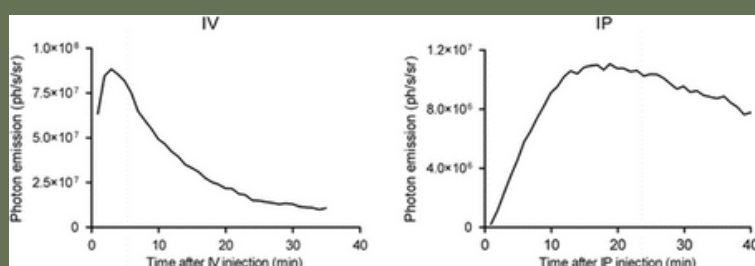

Fig 1 Keyaerts, M. et al. Eur J Nucl Med Mol Imaging (2008)
- Always run a pilot study if possible to determine luciferin kinetics (Figure 1)